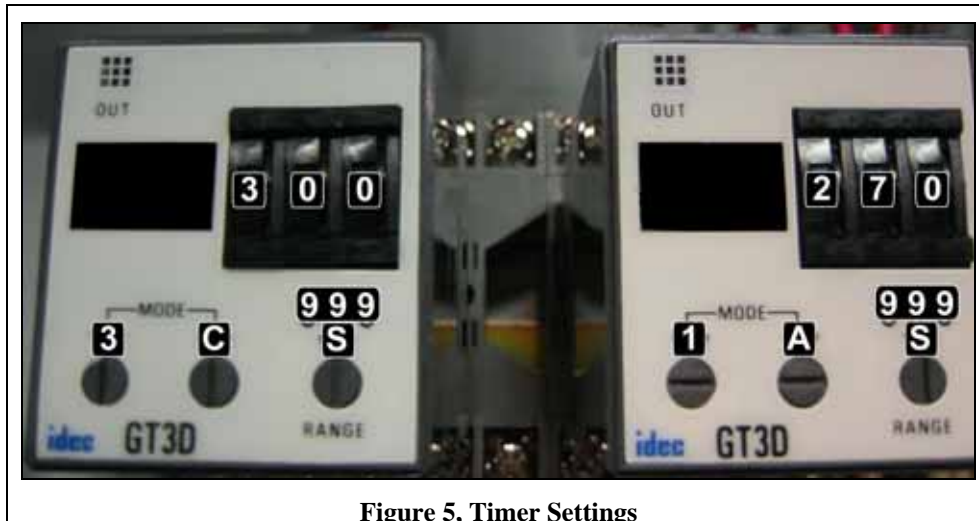

Figure 5, Timer Settings
- Step 6) The timers TR1 and TR2 must be configured to these settings only. Any other values will prevent the equipment from running. If different from Figure 5 use a small screwdriver to adjust the values.